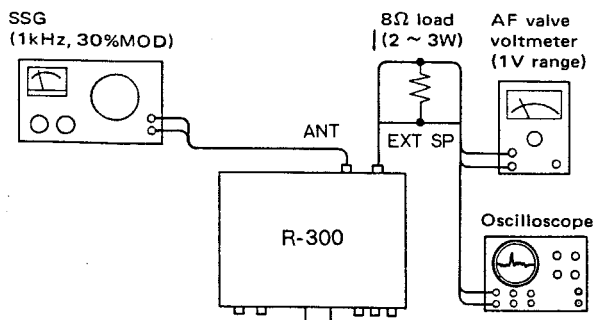

Fig. 2
- (i) Put the receiver so that the cursor line can be seen directly. Connect the AF valve voltmeter and oscilloscope to both ends of 8Ω dummy load, as illustrated in Fig. 2.